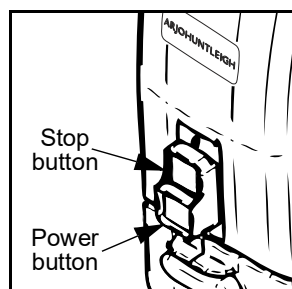

Fig. 1
1. Turn off the Maxi Move by pressing the red stop button (see Fig. 1).